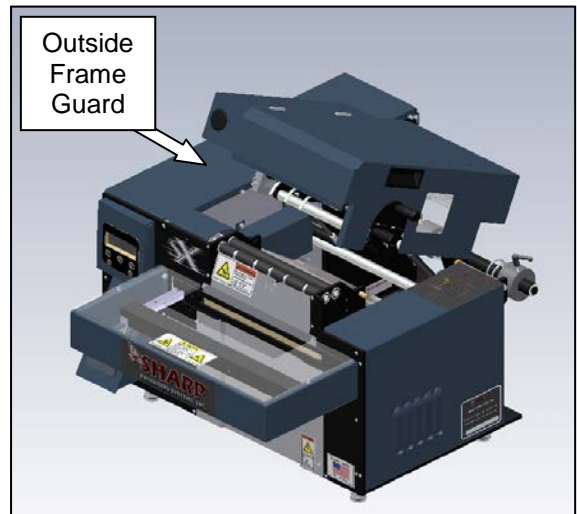

Figure 3-296. Guard Identification
1. Remove the outside frame guard (Figure 3-296).